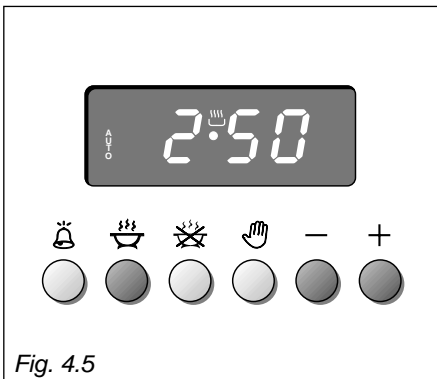

Fig. 4.5
1. Set the length of the cooking time by pushing the  button and the  button to increase, or  to decrease if you have passed the desired time (fig. 4.5). The **AUTO** and the  symbol will light up.